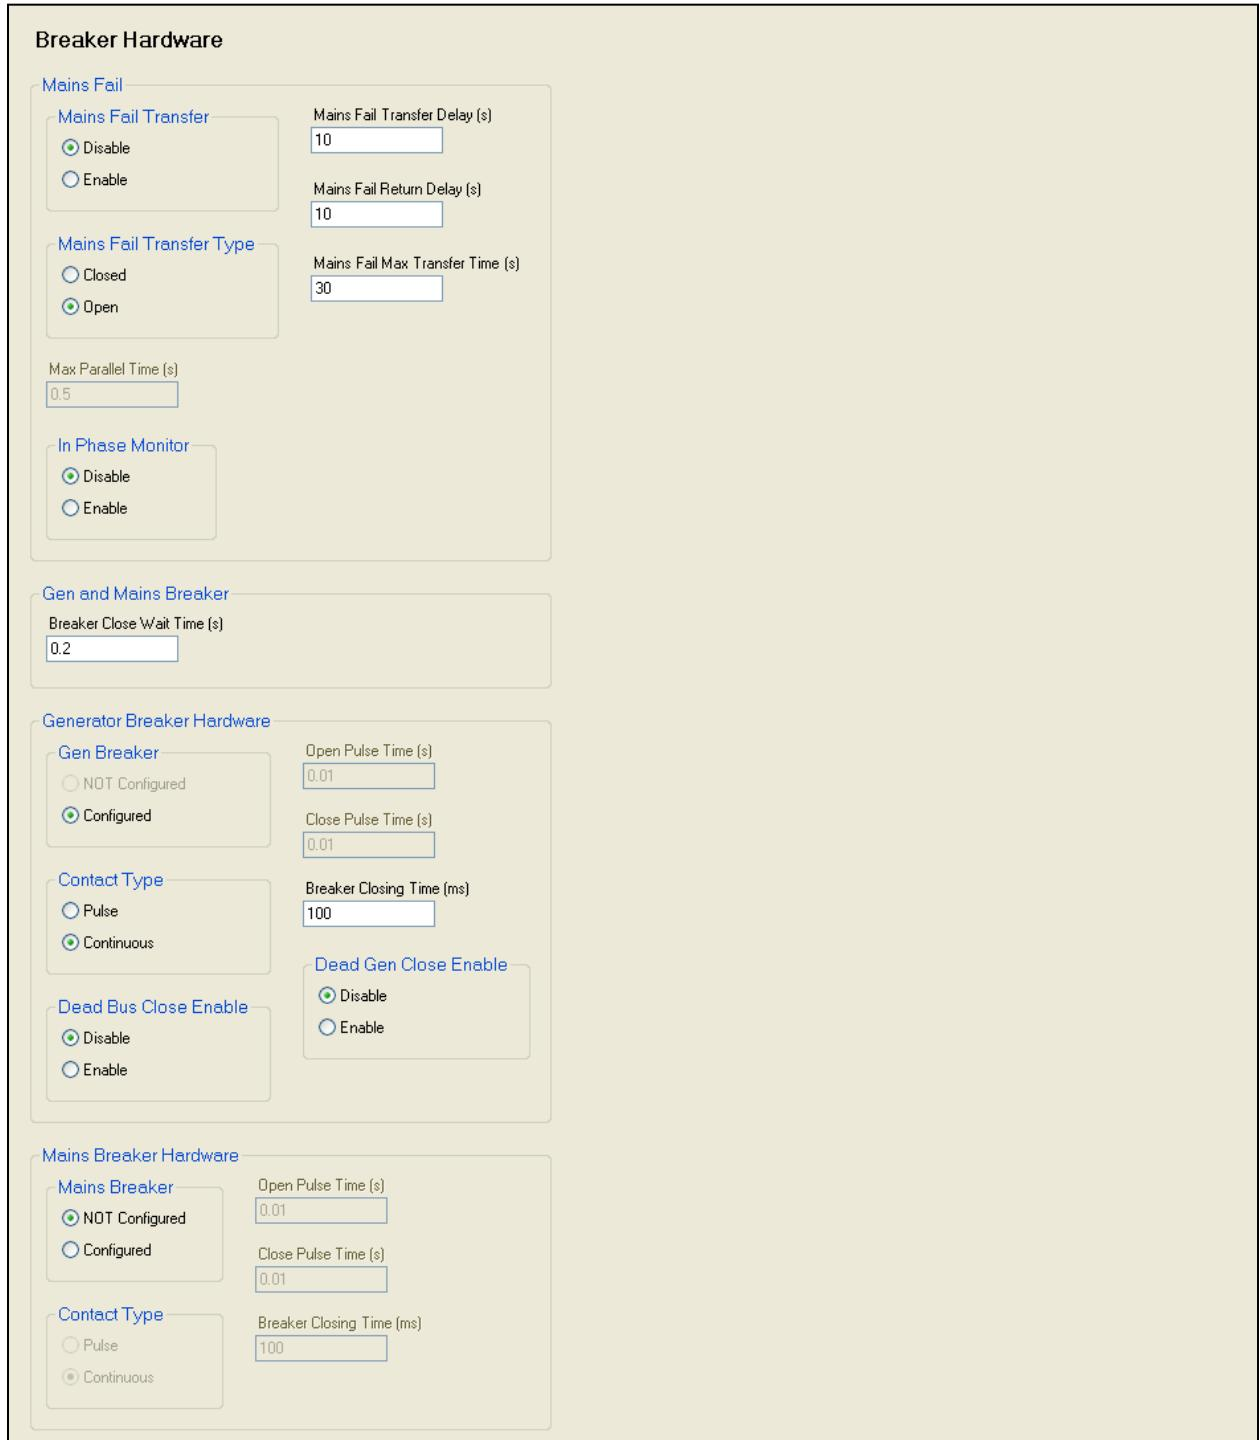

Figure 6-54. Settings Explorer, Breaker Management, Breaker Hardware Screen
3. Configure the generator breaker parameters under SETTINGS EXPLORER→BREAKER MANAGEMENT→BREAKER HARDWARE. See Figure 6-54: